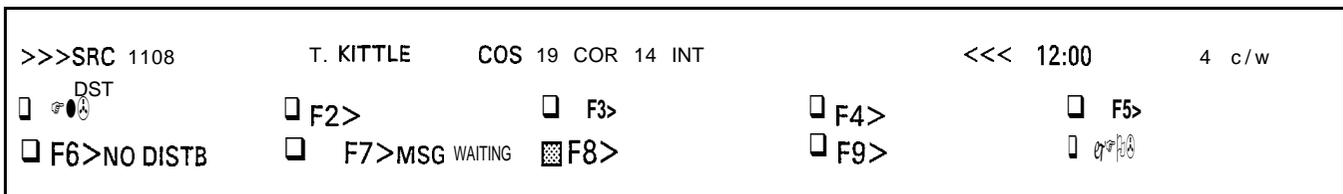

Figure 3-21 Answering an Attendant Intercept
3.27 An intercept to the Attendant is displayed as INT; refer to Figure 3-21. The delimiter (>>><<<) display also indicates that the Attendant is presently connected to the source.